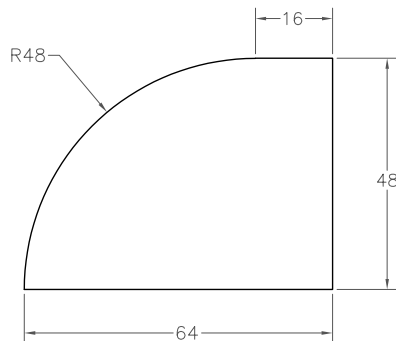

Figure 3-122 The region before extrusion
17. Draw the profile shown in Figure 3-122 at any place in the drawing area and then convert it into a region.